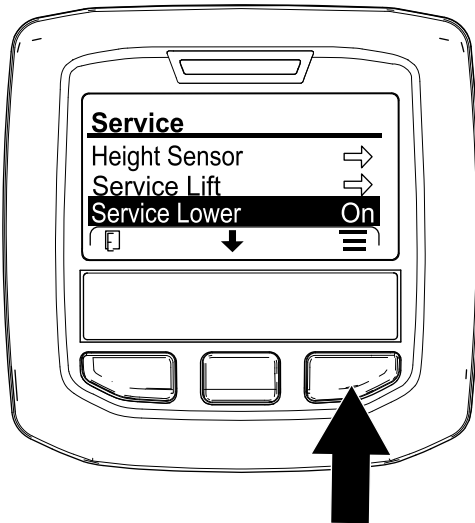

Figure 178
- Press the center InfoCenter button until the SERVICE LOWER option is selected (Figure 178), press the right button.